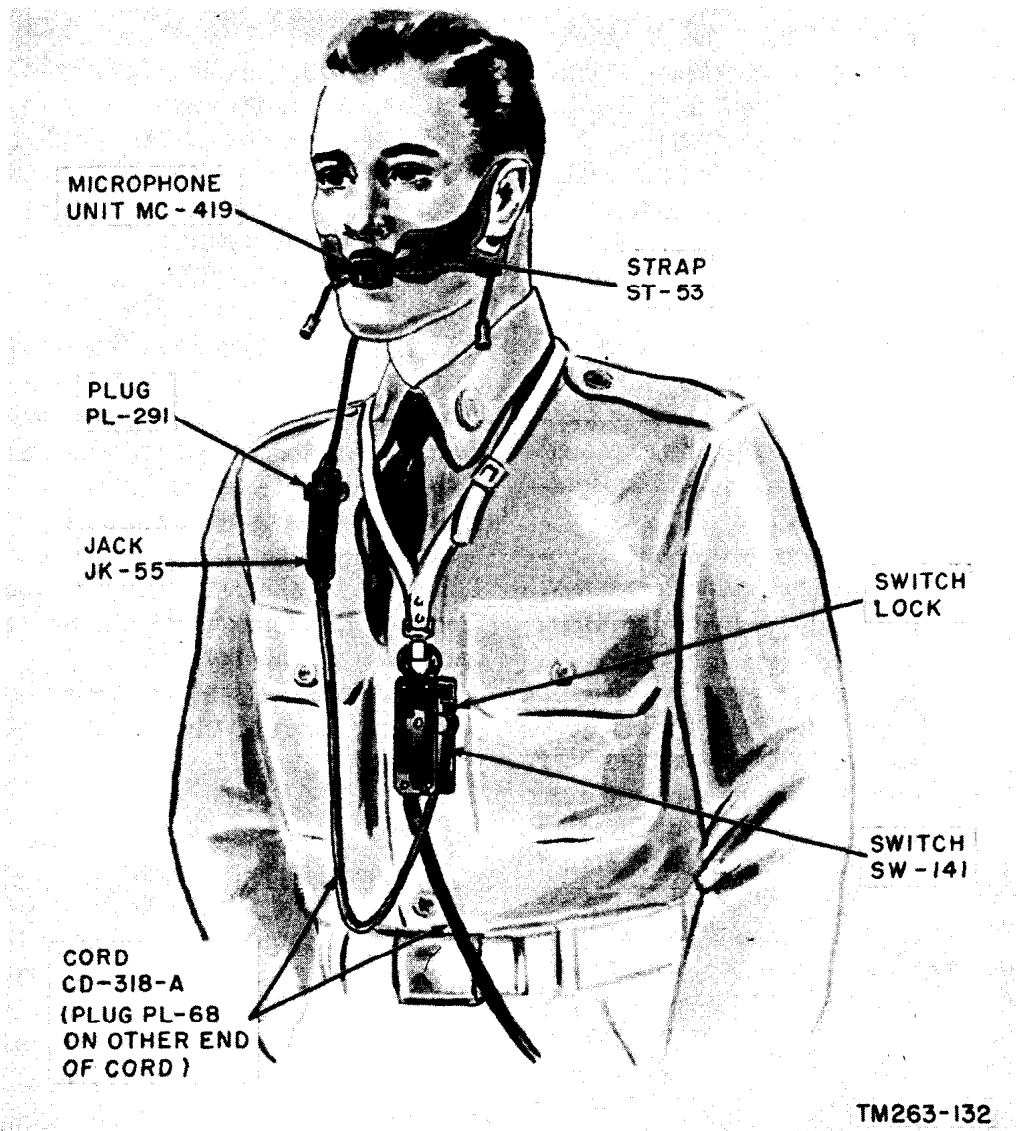

Figure 50. Microphone T-45, in use.
- (1) *Microphone T-17.* To operate Microphone T-17, hold it close to the lips, press the button on the handle, and speak in a loud, clear voice. Hold the button until finished talking, then release the button to listen for the reply.
- (2) *Microphone T-45.*
- (a) Microphone T-45 is held in front of the mouth by a harness that can be adjusted for comfort. The plug of Microphone T-45 connects to a corresponding receptacle on Cord CD-318-A. This cord leads to Switch SW-141, which is hung on the chest by means of a strap that fits around the neck. Then the cord emerges from the switch box and terminates in Plug PL-68 which fits into the MIKE jack on the transmitter. Figure 50 shows Microphone T-45 in use.